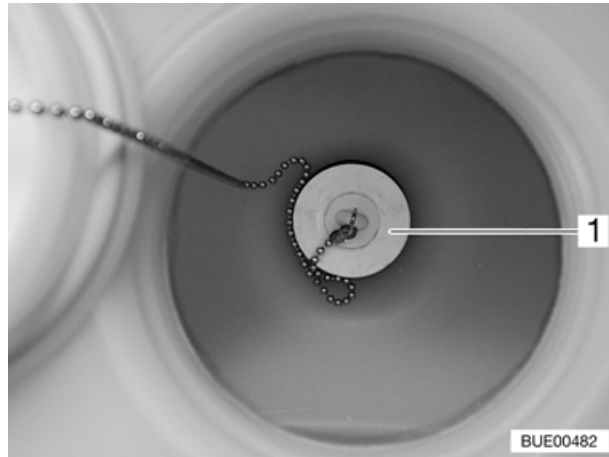

Fig. 84 Fresh water tank, stopper
- Close the drainage opening in the fresh water tank with the stopper (Fig. 84,1) provided.